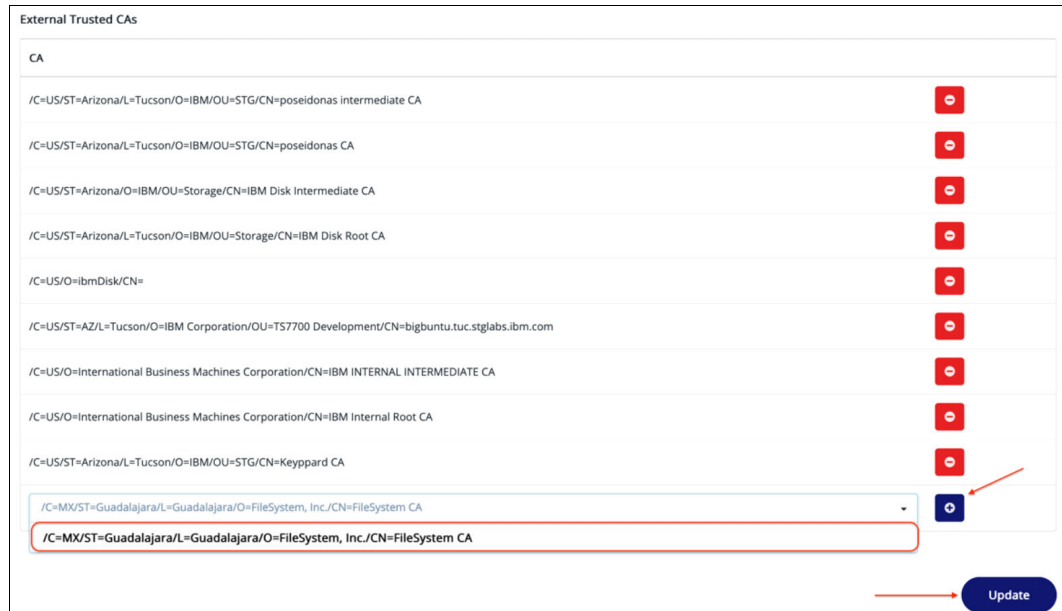

Figure J-29 Update details
4. If you are using an external CA, add the certificate to the trusted list. Follow these steps and see the example in Figure J-29: